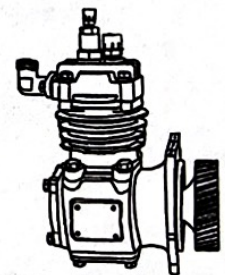

Fig 3-17 Air Compressor
4.10 Check the leakage of intake pipe and exhaust pipe of air compressor. Check and clean the dirt on the exhaust valve and intake valve. Check the leakage. Remove the faults. The profile of the air compressor sees Fig 3-17.